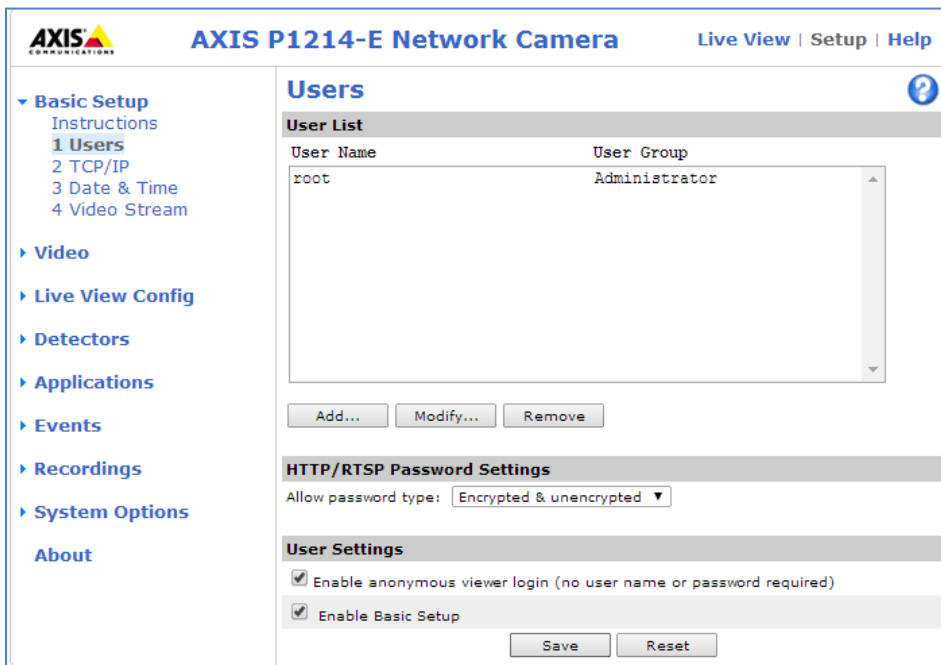

Figure 2: Setup Camera for Video Logging in Axis IP Utility
- Step 3: Go in 'Setup' option. Select Basic setup → Users → Select Enable anonymous viewer login and press Save button (Figure 2)